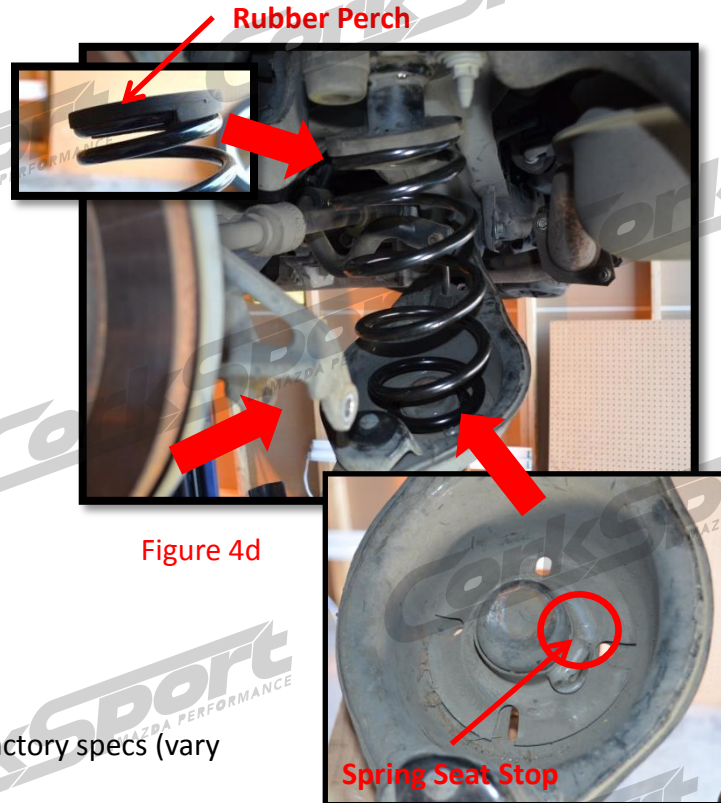

Figure 4d
- e) Transfer the upper spring perch rubber, from the old spring to the new lowering spring and put the new spring back into the vehicle (Figure 4d).
- f) Twist the spring within the lower control arm until it seats and stops turning (Figure 4d).